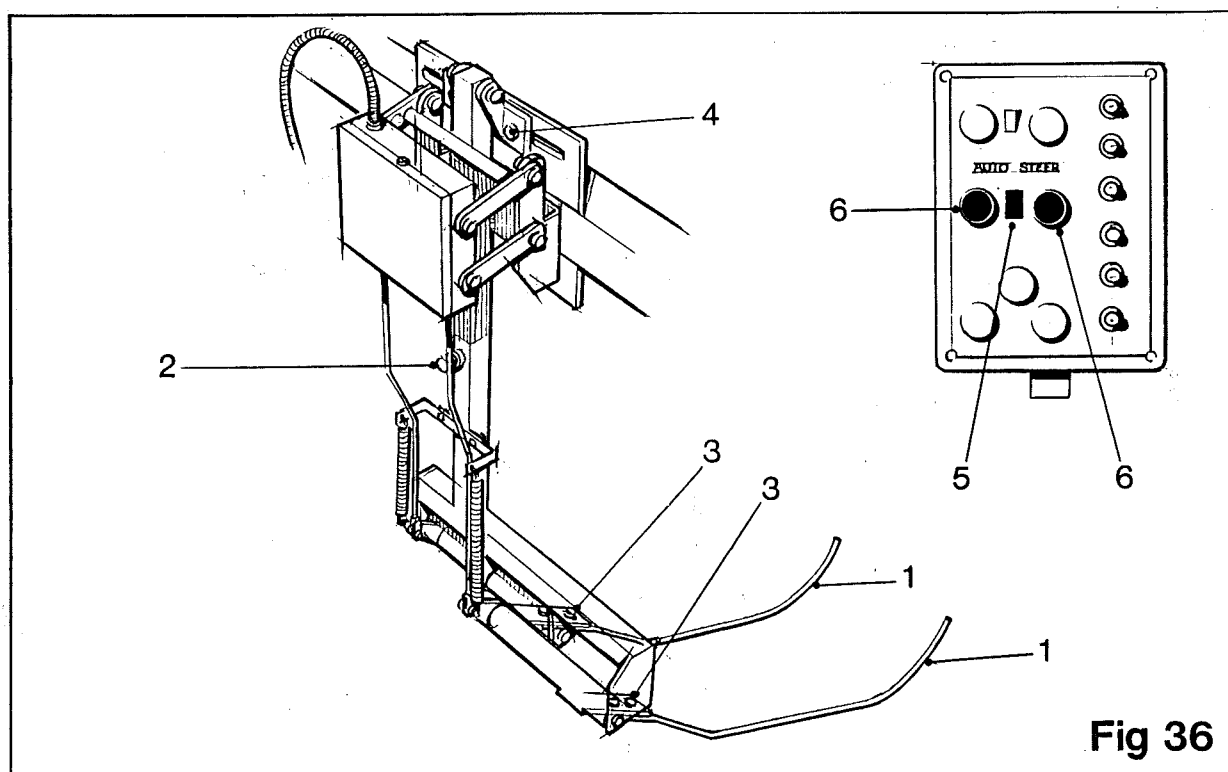

Fig 36
The purpose of the self steering is to allow the harvester to follow the rows of beet irrespective of the contours of the land. This is achieved by the two steerage feet (item 1, fig 36) running beside the beet. Once either of the feet (item 1, fig 36) has been lifted it will actuate a proximity switch which in turn operates a hydraulic ram connected to the drawbar. This will then correct the harvester.
The height of the steerage unit is adjusted by loosening the retaining bolt (item 2, fig 36) and raising or lowering the complete unit.
The distance between the two steerage feet (item 1, fig 36) can be adjusted to allow the feet to pass the largest beet. To adjust slacken the two set screws (item 3, fig 36) on each of the steerage feet and move the feet in or out to give the required width. Both feet should be adjusted to leave them central about the steerage unit.
The position of the steerage unit can be adjusted to suit varying row widths. To adjust, slacken the two retaining bolts (item 4, fig 36) and move the steering unit across to the required position.
To engage the automatic self steering, press the switch (item 5, fig 36) on the control box. If during work steerage of the harvester needs to be made manually, the automatic self steering can be overridden by pressing either the left or right switch (item 6, fig 36).